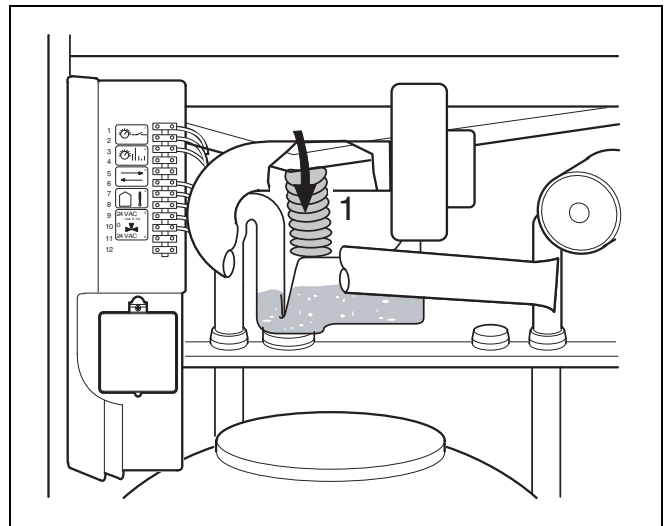

fig. 28 Filling the syphon with water
- Pull the hose from the condensate plate (fig. 28, item1).